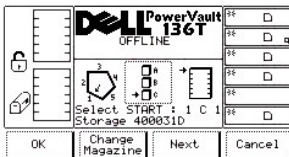

Figure 39. Command > Move > Scan Barcode > Change Magazine Dialog
- 1 If the button beneath the **Next** softkey is selected, the current source parameter changes from column to magazine and the Change Magazine Dialog is displayed. Refer to Figure 39.